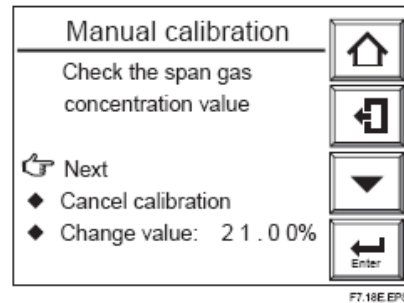

Figure 7.18 Manual Calibration
- (2) Press the [Enter] key to select span-gas calibration. The Manual calibration display shown in Figure 7.18 then appears. Check that the oxygen concentration for the span gas in this display coincides with the oxygen concentration in the calibration gas actually used. If the check results are assumed to be OK, select Next in the Manual calibration display.